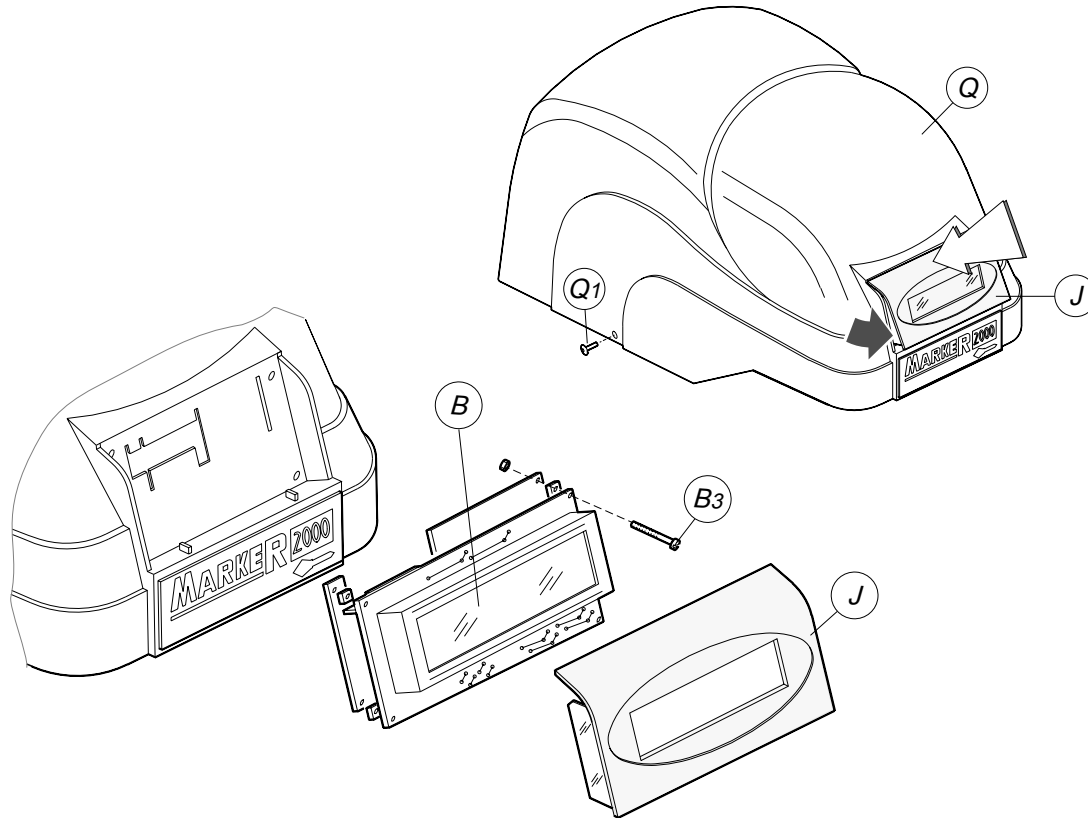

Fig. 37
- 2) raise and remove the top cover (Q) (ch.9.4), disconnect the connector (B1) and faston (B2) from the display.
- 3) take hold of the mask (J) and remove, exerting leverage on the top of it (fig. 37).
- 6) re-connect the faston (B2) and connector (B1), replace the cover (Q) on the machine and secure with the four screws (Q1).